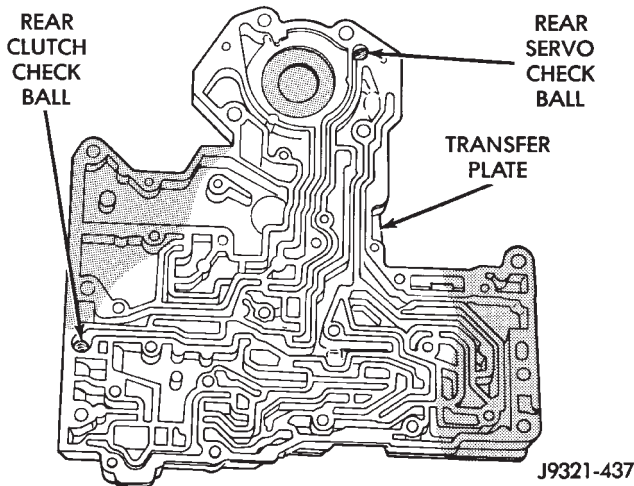

Fig. 71 Rear Clutch And Rear Servo Check Ball Locations
(35) Remove rear clutch and rear servo check balls from transfer plate. Note check ball location for assembly reference (Fig. 71).